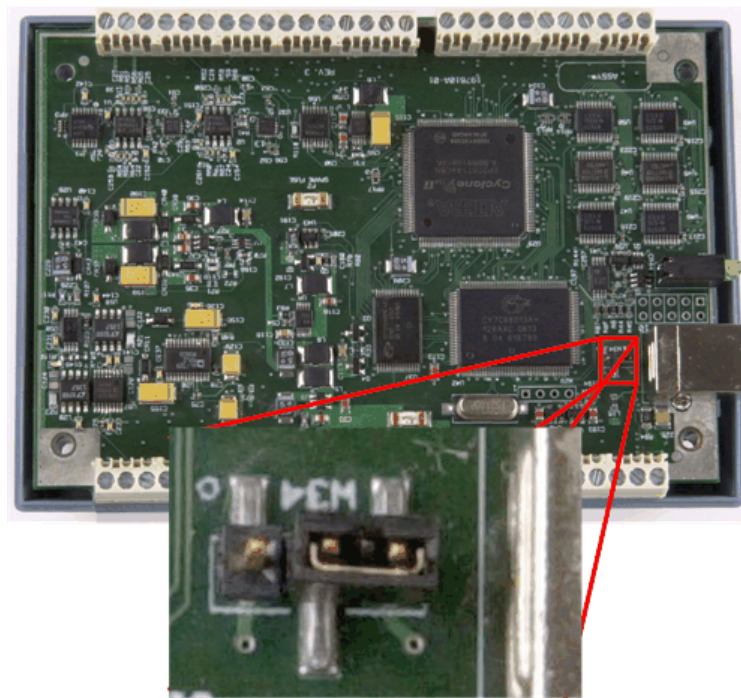
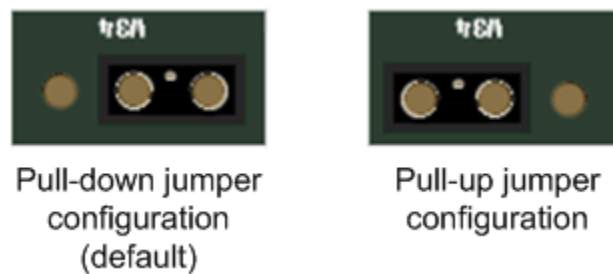

Figure 9. Location of W34 jumper (default pull-down setting shown)
Figure 10. W34 jumper – pull-down and pull-up configurations
5. Set the jumper to either pull-up or pull-down (see Figure 9 and Figure 10).